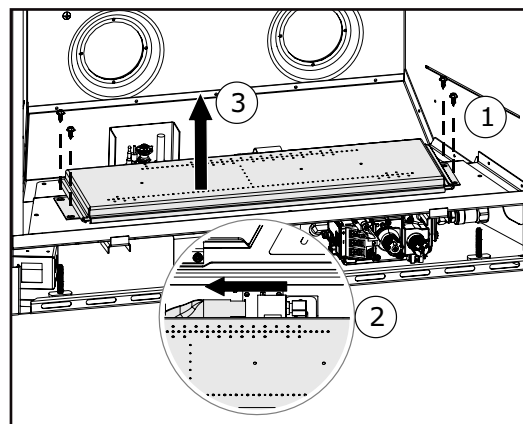

Fig. 2
- ☐ 4. Remove the 4 screws holding the burner in place, slide the burner to the left to remove the orifice (**Fig. 2**).